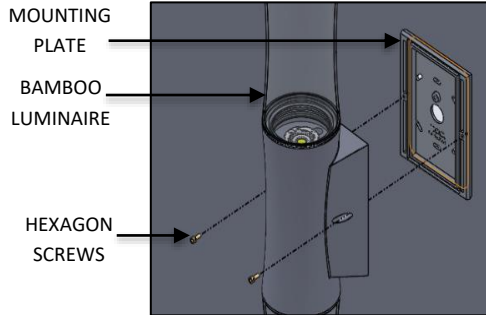

FIG. 5- MOUNTING PLATE
2. Unscrew HEXAGON SCREWS and remove the MOUNTING PLATE OUT of FIXTURE as shown in FIG 5.